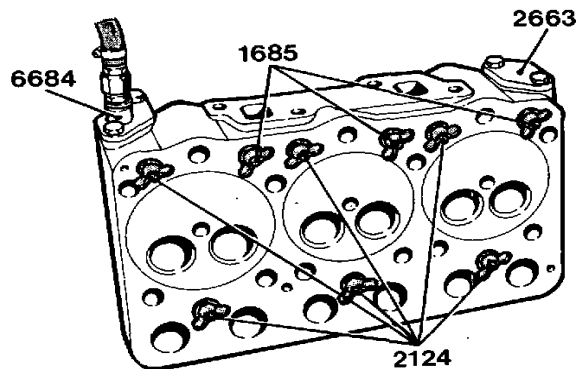

Fig. 37. Pressure-testing cylinder heads, 60 series
1. Fit the sealing washer 2663 and connector washer 6684, see figs. 37 and 38.
2. **60 series:** Fit the expander bolts 1685 (3 pcs), resp. 2124 (6 pcs) according to fig. 37.